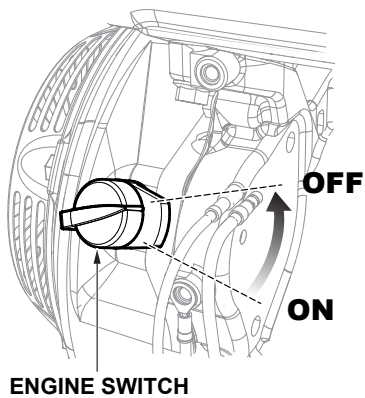

Figure 14. Engine ON/OFF Switch (OFF)
2. Place the engine **ON/OFF** switch in the **OFF** position (Figure 14).